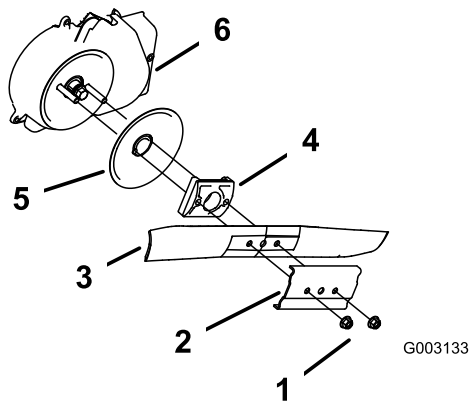

Figure 48
3. Remove the 2 blade nuts and the stiffener (Figure 48).
4. Remove the blade (Figure 48).
5. Remove the blade driver and disk (Figure 48).
6. Remove the blade stop system shield (Figure 48).
10. Install the blade and the stiffener that you previously removed (Figure 48).